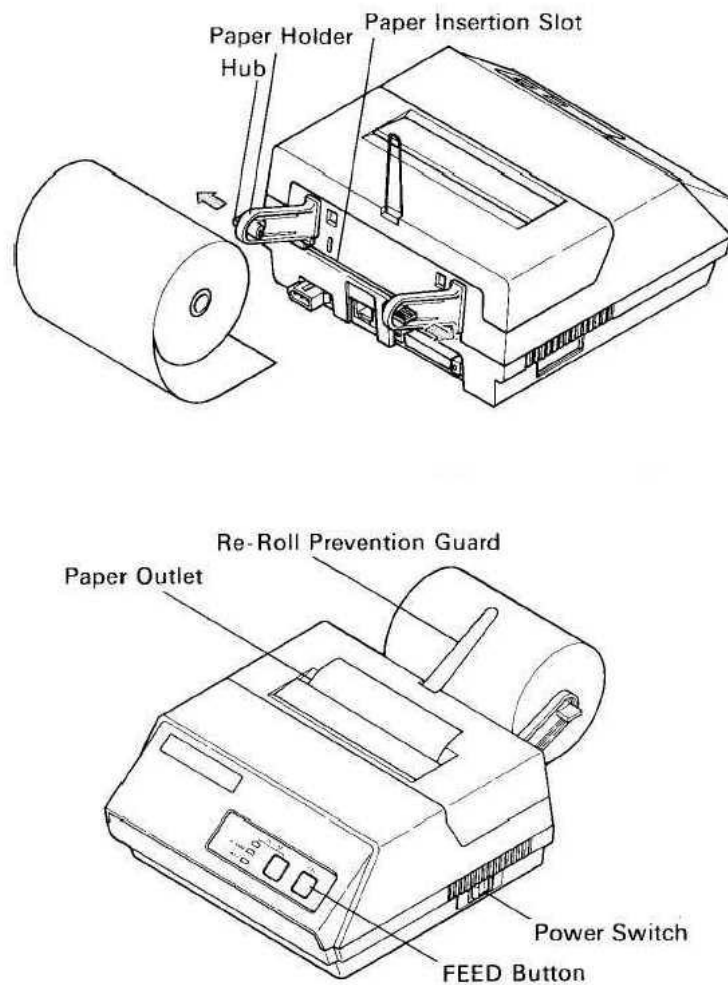

Figure 2-3 Paper Insertion (Model DP8340F)
2. According to Figure 2-3, attach the Roll Paper to the Holders Paper by slipping one side of the roll onto the Hub and pulling the other Hub out to allow the roll to slip in place.